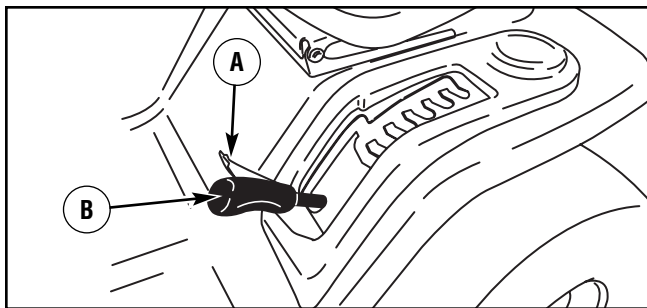

Figure 34: Deck lift lever
2. Open the deck level position cover, and move the **deck lift lever** to the level adjustment position (Figure 34).